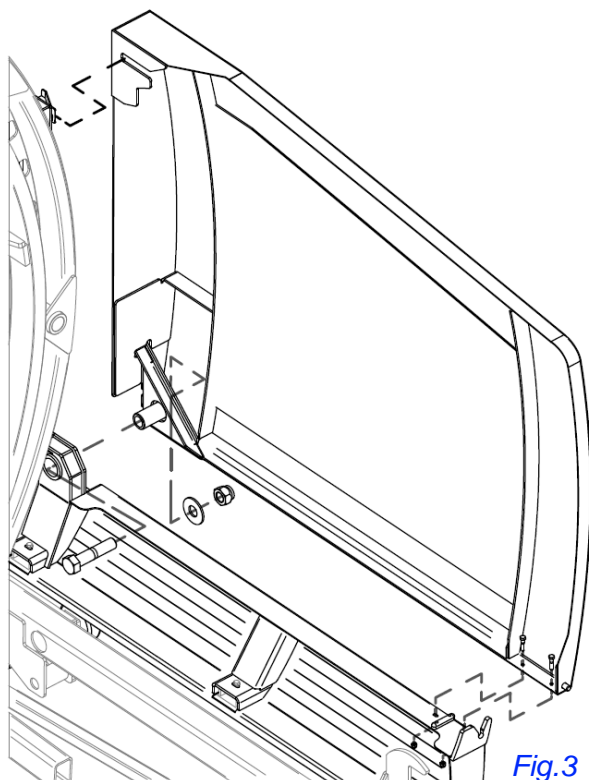

Fig. 3
4. Lift left safety guard 90° to open position. See Fig.3.
7. Press one end of new plastic wrap roll into sliding spring spool. See Fig. 3.
Fig. 3
9. Install right maintenance safety guard by bolting at pivot point. Do not over tighten. See Fig. 3.